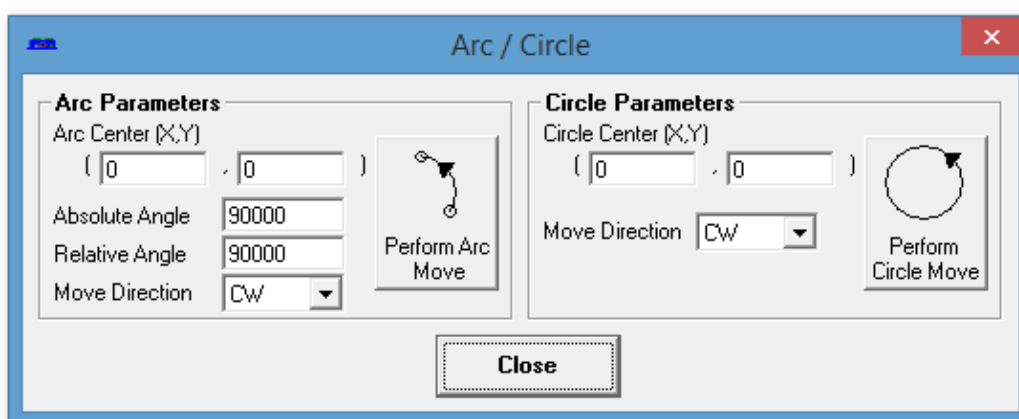

Figure 7.6
22. **Arc/Circle Tool** – Clicking on this button will provide the user with an interface to perform Arc/Circle XY moves. This will bring up the window shown in figure 7.6